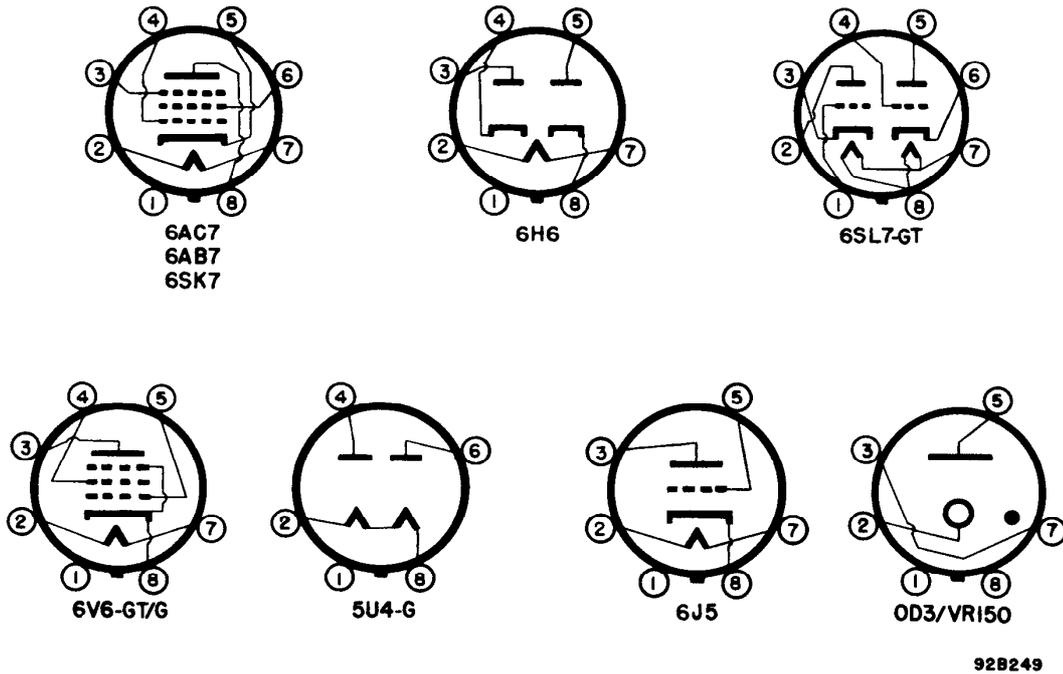

Figure 7-6. Radio Receiver Model S-36A, tube socket connections.
a. Voltage Chart. - Refer to Fig. 5-2. for the tube socket terminal voltages. Voltages shown are those between the terminal and ground (chassis) unless otherwise specified. To identify the tube socket connections, refer to Fig. 7-6. The readings were taken with an RCA Volt-Ohm-ist Junior analyzer using 20,000 ohm per volt sensitivity. To prepare the receiver for measurement, disconnect the antenna, connect a jumper between the antenna terminals A₁, A₂ and GND, disconnect the speaker and replace with a 5000-ohm 10-watt resistor across the 5000-ohm output terminals or a 500-ohm 10-watt resistor across the 500-ohm terminals, and set the controls as follows:
b. Resistance Chart. - Refer to Fig. 5-3. for the tube socket terminal to ground (chassis) resistance measurements. To identify tube socket connections, refer to Fig. 7-6. The readings were taken with an RCA Volt Ohmyst Junior analyzer. To prepare the receiver for measurement, disconnect the a-c line cord and set the controls as follows: